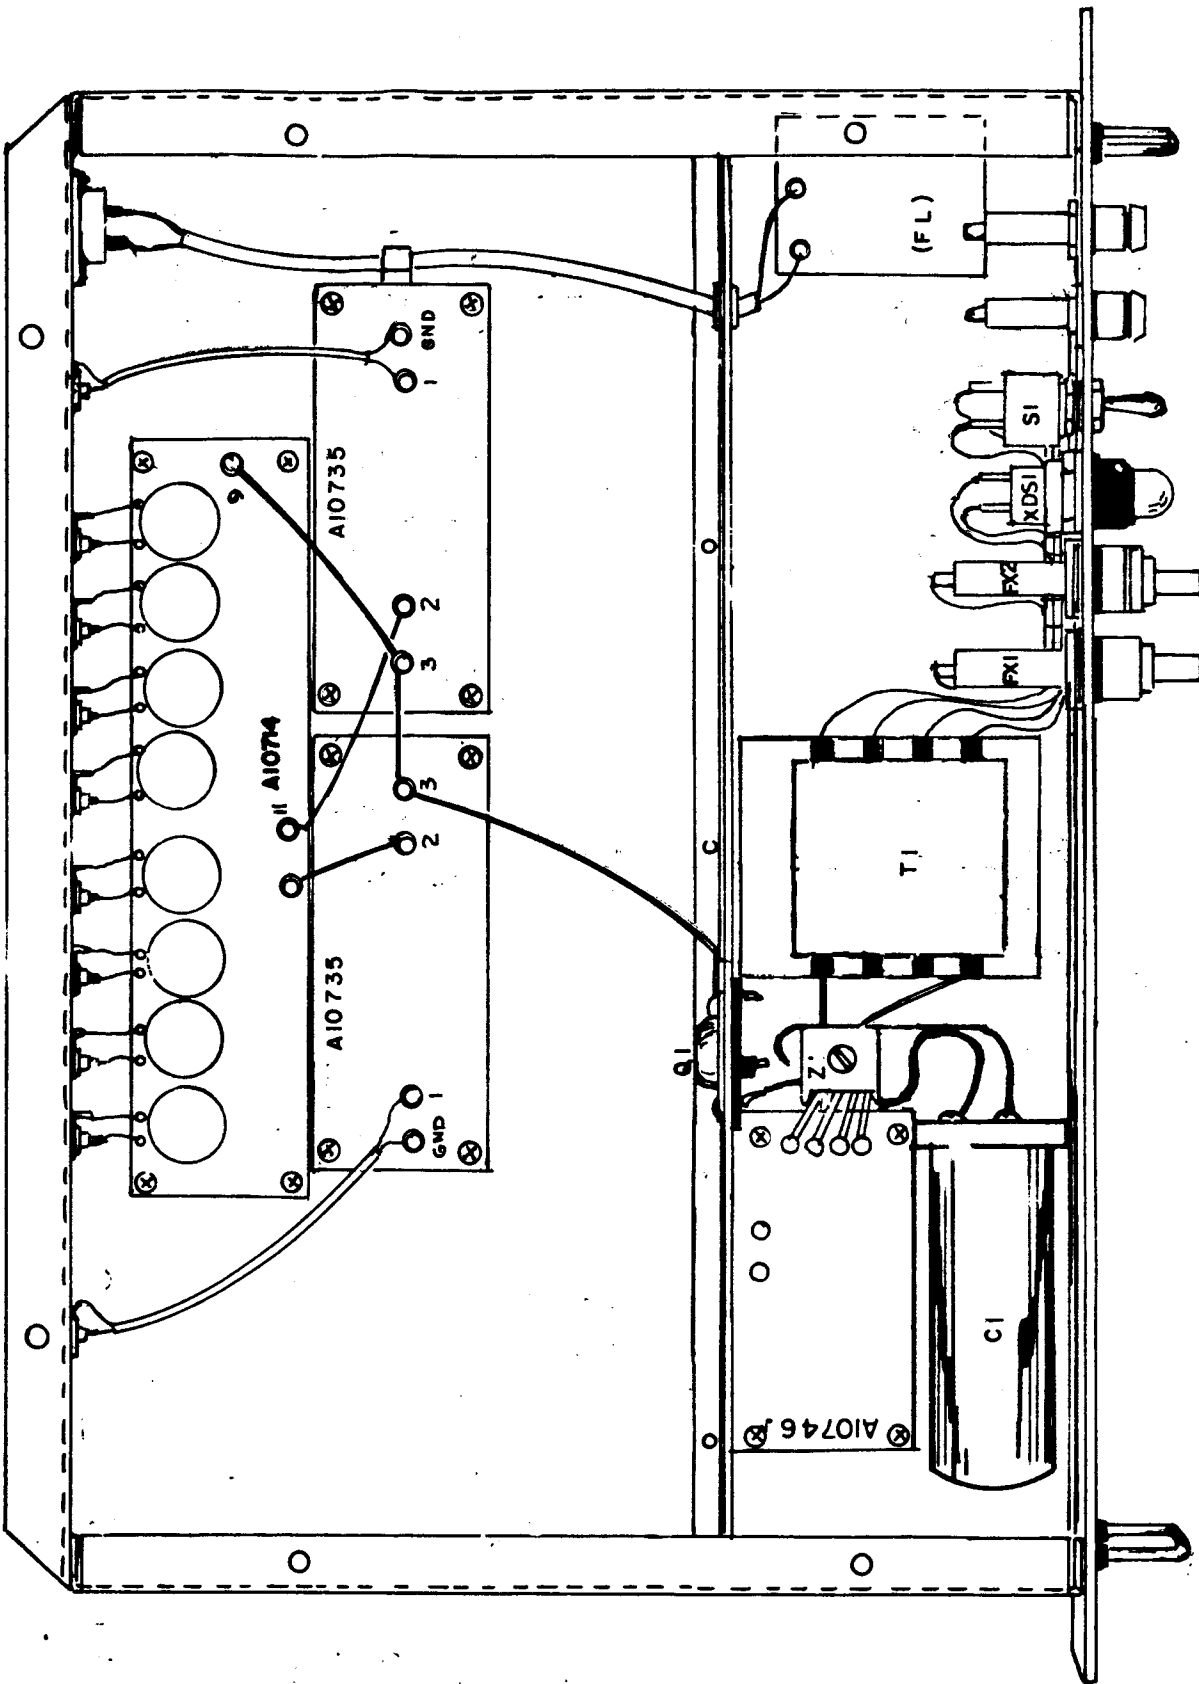

Figure 5-1
(1) This section describes preventive maintenance, troubleshooting and repair procedures for the AMC- (2X4). The following equipment is suggested in order to perform these procedures properly.
(2) For aid in the location of components, refer to figures 5-1 to 5-5 inclusive.